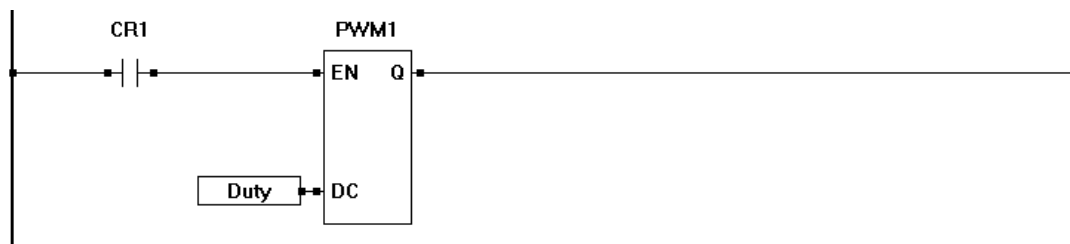

Figure 8-4
To control a PWM output, specifically when it is enabled, disabled and it's duty cycle, the **PWM** function block is used. This function block has two inputs (EN for Enable and DC for Duty Cycle) and also has one output (Q). When the PWM function block is enabled (the EN input is true), the PWM channel is active and operating at the frequency defined in the project settings and the Duty Cycle (variable connected to DC of the PWM function block). When the EN input is false, the PWM channel output is disabled. Figure 8-4 illustrates the PWM function block in a sample circuit.
In addition to an adjustable duty cycle, the PWM clock frequencies (CLK A / CLK B) can be changed in the ladder diagram project by use of the PWM\_FREQ function block. The PWM\_FREQ function block has two inputs (EN for enable and F for frequency) and one output (Q). When the EN is true, the PWM channel frequency is changed to the value of the variable connected to the F input of the function block. Figure 8-4 illustrates a sample circuit using PWM\_FREQ.